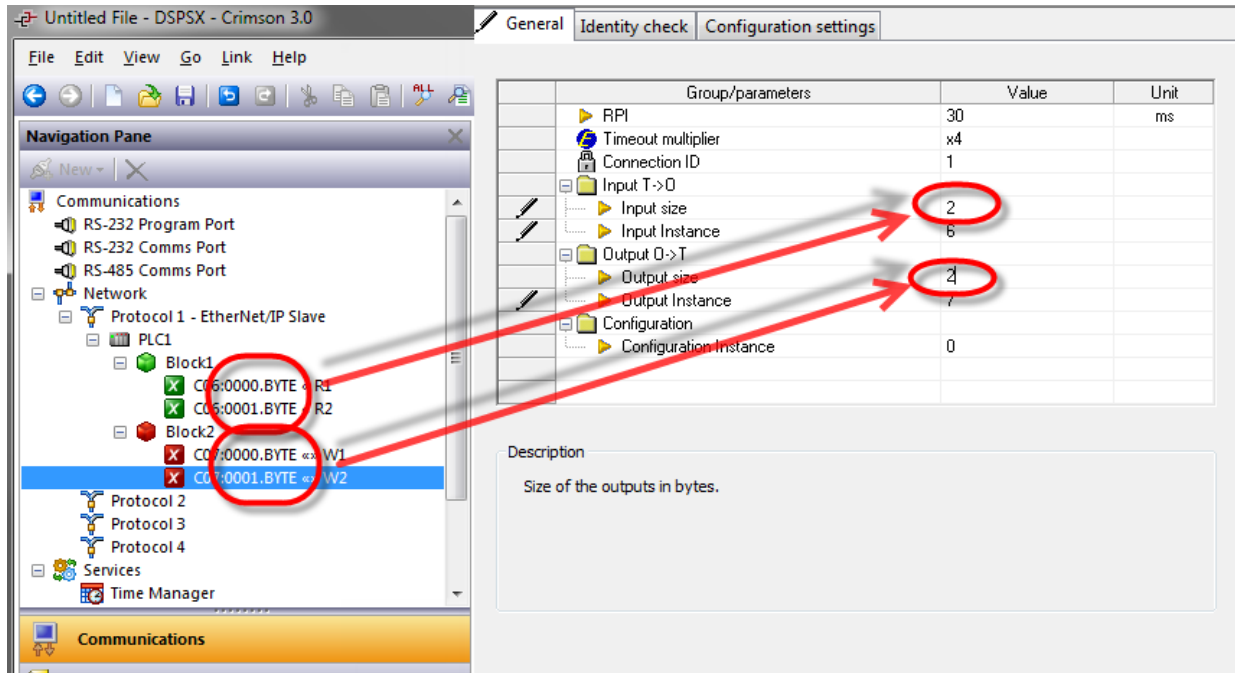

Figure 22.
- a. Referring to Figure 22, go to the `Input size:` field and enter the total number of Bytes the Crimson device reading block contains; 2 in this example.